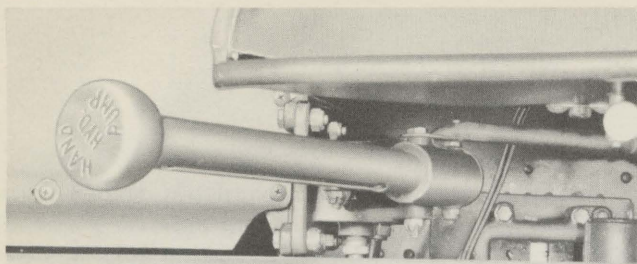

FIG. 4—EMERGENCY HYDRAULIC HAND PUMP
4. EMERGENCY HYDRAULIC HAND PUMP (See figure 4.)